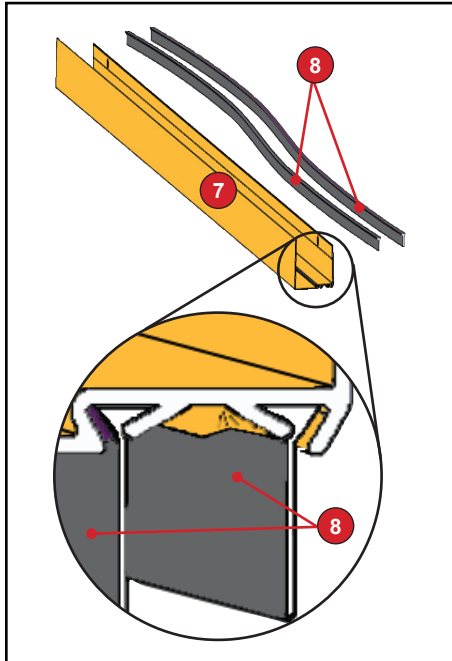

Figure 23
1. Slide the sweep fins into the tracks located on the bottom of the door sweep (Figure 23).